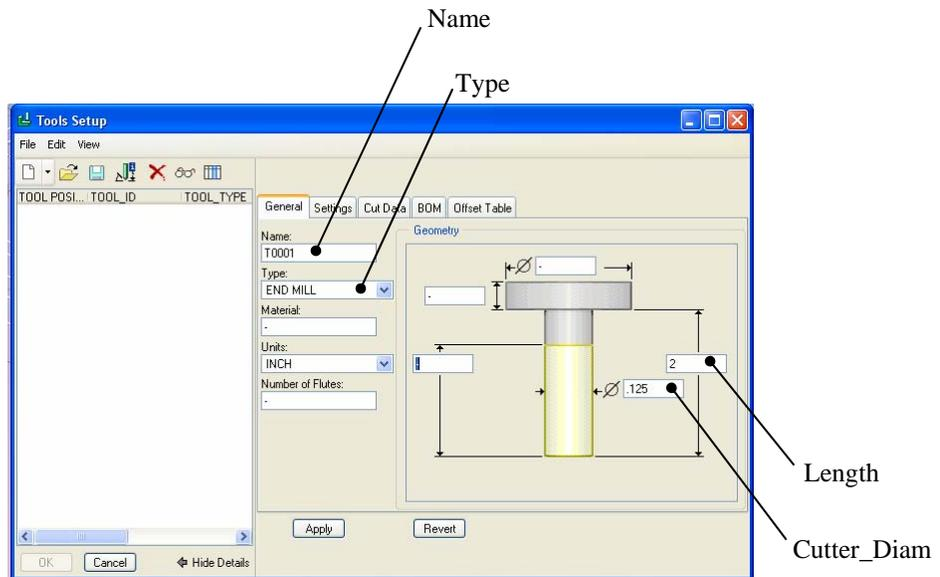

Figure 7b: Tool Setup Dialog Box
After selecting Done, Manufacturing mode will launch the Tool Setup dialog box (Figure 7b). Notice in Figure 8a the parameters checked for defining. Starting from the top of this list (Tool in this case), Pro/ENGINEER will in order automatically move you through the required menus and dialog box to define each parameter.
Step 14: Enter the tool parameters shown in Figure 7b.